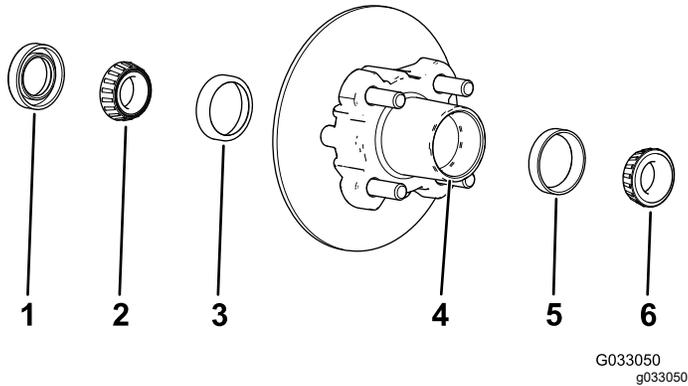

Figure 32
1. Remove the outboard bearing and bearing race from the hub (Figure 32).
2. Remove the seal, inboard bearing from the hub (Figure 32).
5. Clean the cavity of the hub of all grease, dirt, and debris (Figure 32).
7. Fill the cavity of hub 50 to 80% full of the specified grease (Figure 32).
8. Assemble the inboard bearing onto the race at the inboard side of the hub and install the seal (Figure 32).